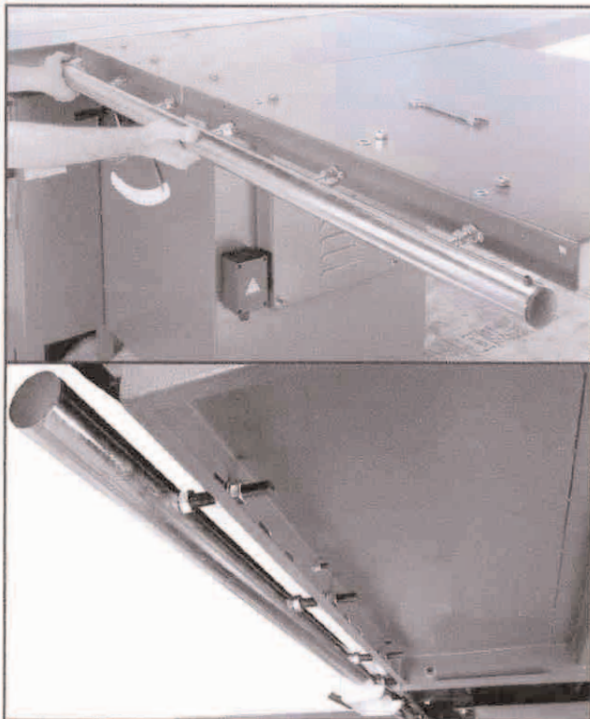

Figure 26. Installing the round rail.
3. Insert the studs into the table as shown in **Figure 26**, and loosely secure with the hex nuts and flat washers removed in **Step 1**.
- Adjust the round rail mounting position on the table by rotating the adjusting nut on the far right stud (of the round rail) until the rip fence is parallel with the blade as shown in **Figure 30**. (See **Figure 26** for a better view of all the round rail studs and adjusting nuts.)